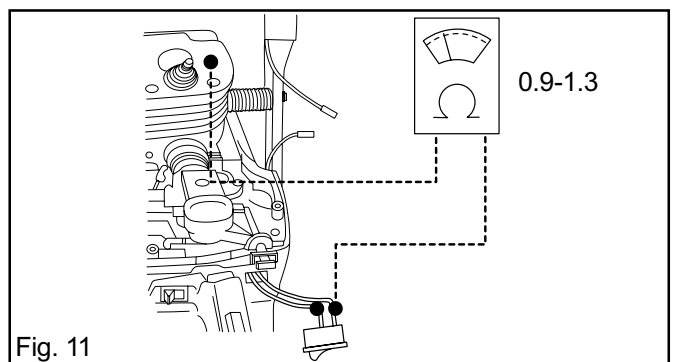

Fig. 11
6. Connect the ohmmeter as shown in fig. 11 and measure the resistance in the generator. The ohmmeter should read between 0.9 - 1.3. If the reading is higher or lower, replace the generator.